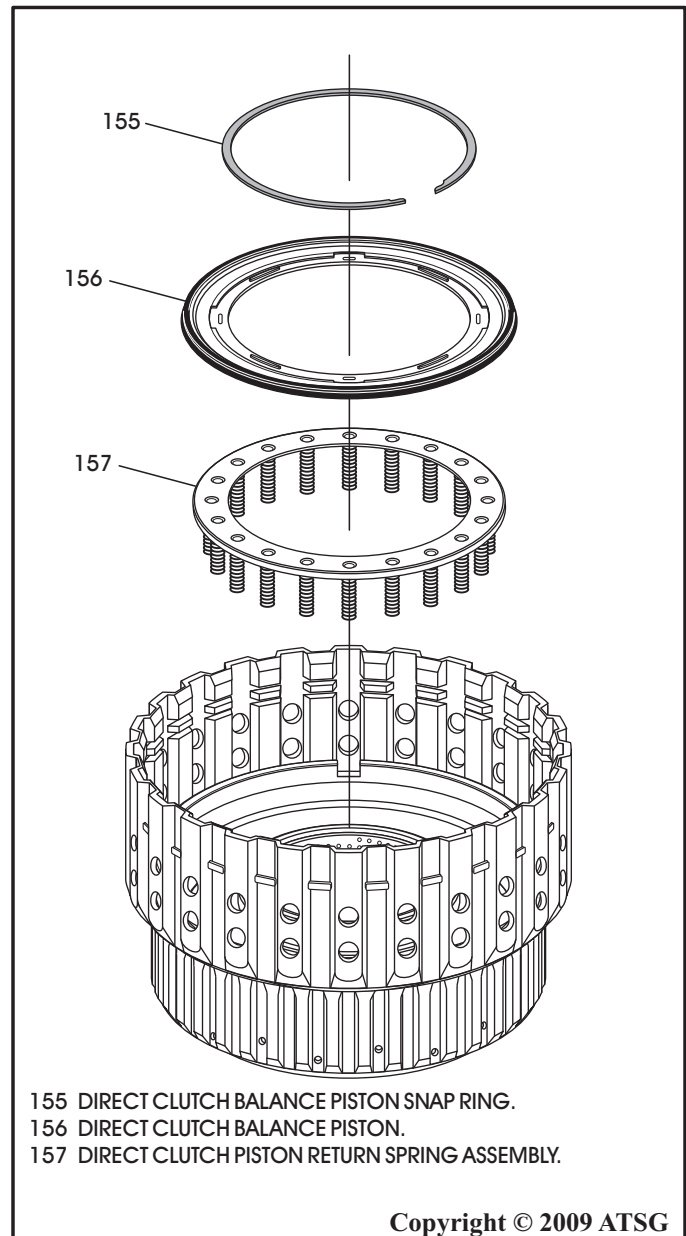

Figure 143
8. Install the direct clutch piston return spring, as shown in Figure 143, into the direct clutch housing.
9. Lubricate the seal on the direct clutch balance piston and install into the direct clutch piston, as shown in Figure 143.
10. Compress the balance piston using universal spring compressor, or foot press, and install the retaining snap ring, as shown in Figure 143.